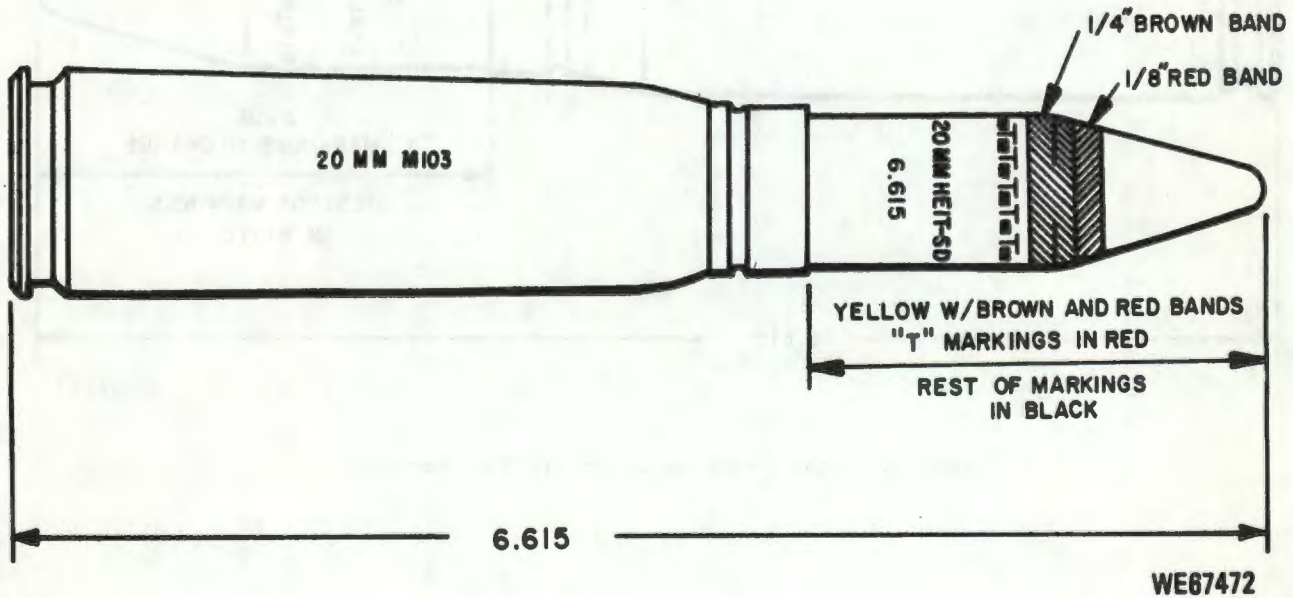

Figure 5-1. Marking of high-explosive, incendiary with tracer, self-destructing (HEIT-SD) M246 cartridge.
a. *High-Explosive Incendiary With Tracer Self-destructing (HEIT-SD), M246 (fig. 5-1).* This cartridge is assembled with an M505A3 point detonating (PD) fuze. The projectile, in addition to the M505A3 fuze, consists of an HEI charge, self-destruct relay charge, and a tracer charge. These charges form the self-destruct chain. The tracer burns for about 3 to 7 seconds, whereupon the relay charge is ignited which detonates the HEI charge at low order. If impact with a target occurs, prior to self-destruction, the M505A3 fuze causes the HEI charge to detonate high order. This cartridge is for use against aerial targets.
*a. Color Code.* The ammunition is painted as shown in figures 5-1 through 5-5 to provide a ready means of identification. The color codes used are listed in table 5-1.